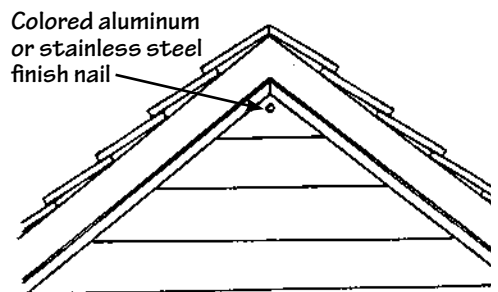

Figure 47.
- It may be necessary to fasten the last panel at the gable peak with a trim nail. Use a 1 1/4" to 1 1/2" (32mm to 38mm) nail. This is one of the few times a nail should be placed in the face of the vinyl siding (Fig. 47).